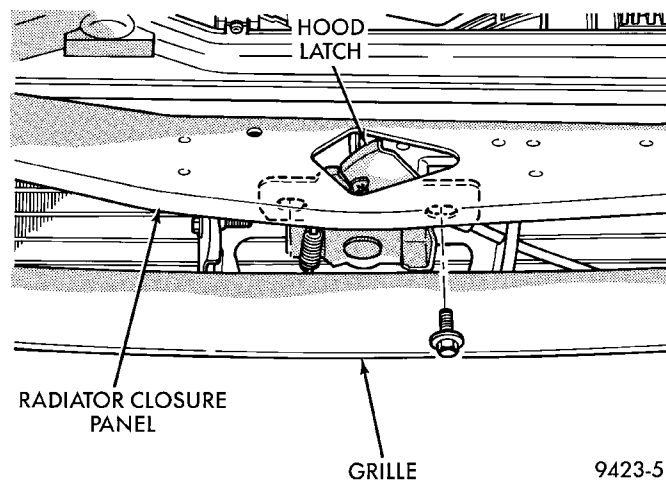

Fig. 2 Hood Latch
- (1) Release hood latch and open hood.
- (2) Support hood on prop rod.
- (3) Remove grille.
- (4) Remove screws holding hood latch to radiator closure panel (Fig. 2).
- (5) Separate hood latch from closure panel.
- (6) Disengage remote release cable from latch.